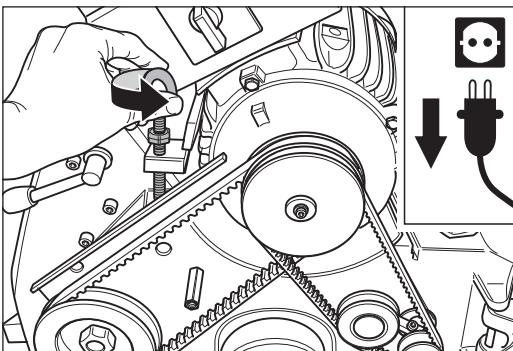

Fig. 103 Release the tension of the V-belts by turning the eye bolt at the motor counterclockwise.
- 5 Release the tension of the V-belts by turning the eye bolt at the motor counterclockwise (Fig. 103).